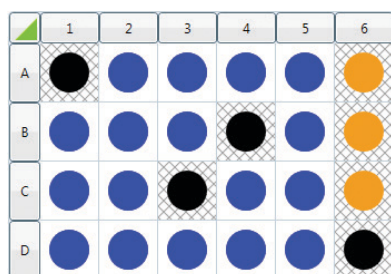

Figure 2. 24-well plate map.
1. The last column of wells (not being used as background wells) is always reserved as the Hypoxia group wells 0 % O₂ reference; see Figures 2 and 3).
Plan experimental group wells (blue wells) in Figures 2 and 3.